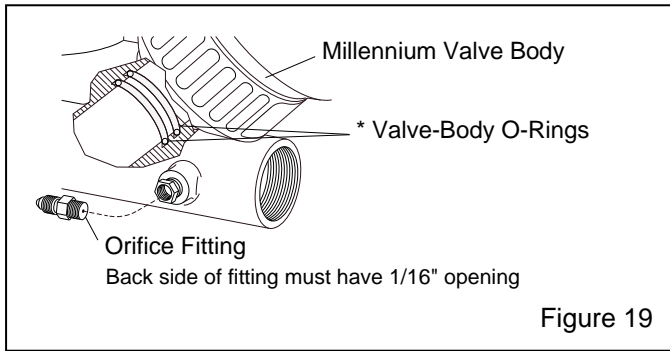

Figure 19
6.3.1.7 Refer to Figure 19 and remove both O-rings from the inside the valve body.
6.3.2.2 Refer to Figure 19 and install new valve-body O-rings.
6.3.2.10 If fittings on the body were removed, make sure the 1/16" orifice fitting is threaded into the port as shown in Figure 19.